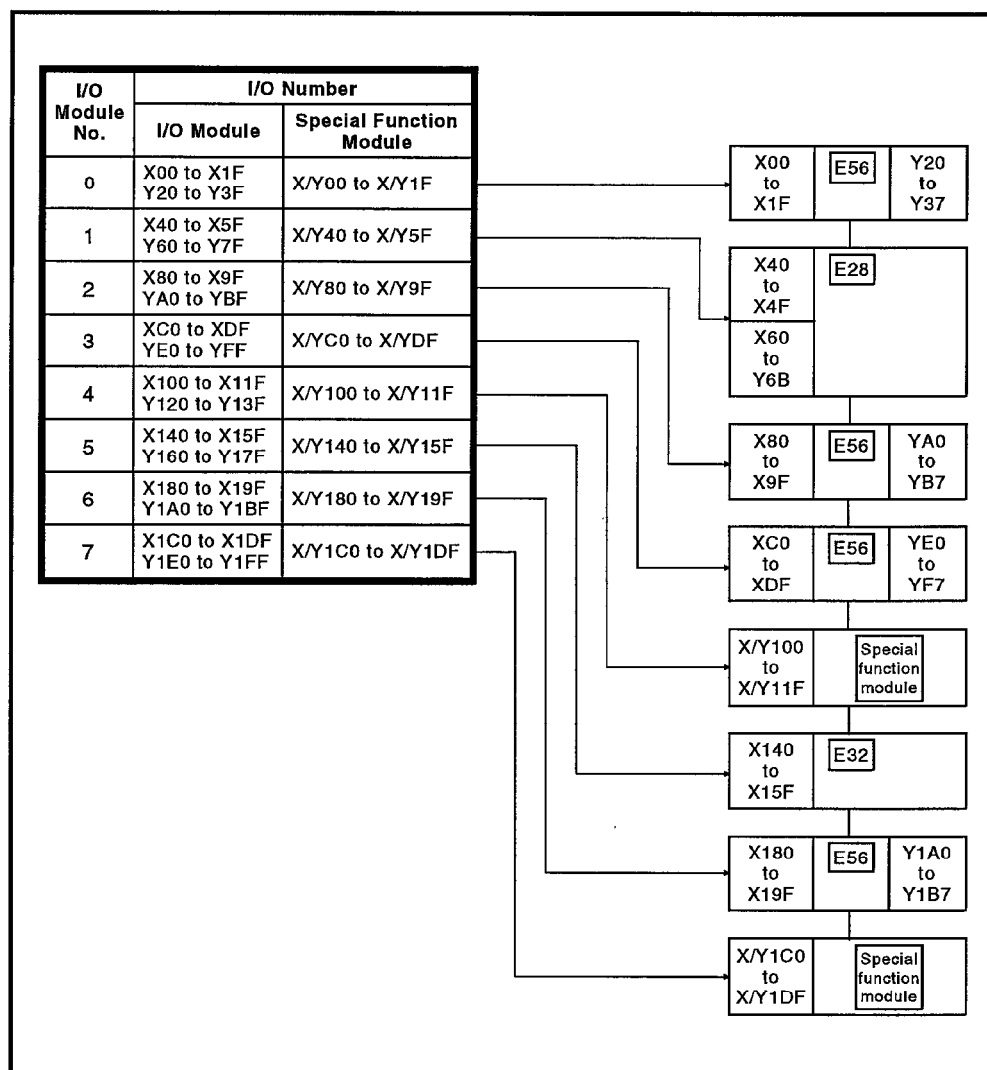

Fig. 4.3 Example of I/O Allocation (1) (with the A0J2 I/O modules and special function modules)
- (1) Fig. 4.3 shows an example of I/O allocation when the A0J2H I/O modules and special function modules are used.